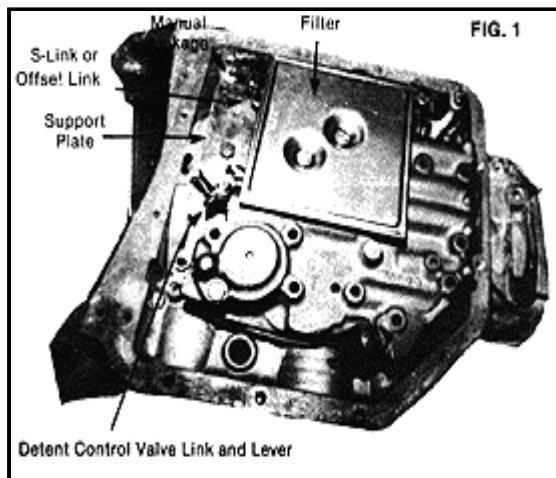

Figure 1
**STEP 2.** Use a screwdriver to remove two screws and remove the oil filter and filter gasket. Put them in the oil pan. (**See Fig. 1**)
**STEP 3.** Observe the location of the following: (**See Fig. 1**) Manual linkage, detent spring and roller, S-link or offset link, detent control valve link and lever, and support plate.
**STEP 5.** Remove support plate bolts and Support plate. (**See Fig. 1**) Remove separator plate, gaskets and four plastic check balls. Check balls to make sure they are between the plate and the case.